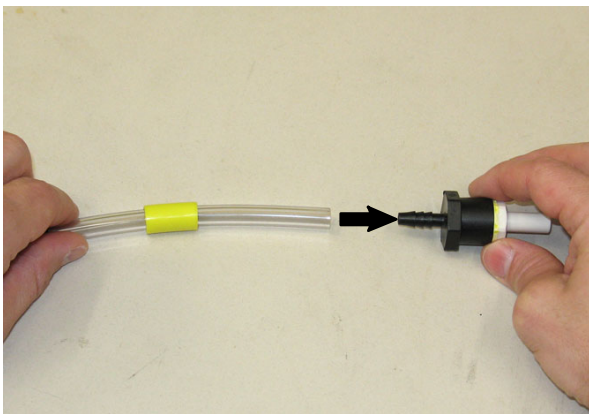

FIG. 28
27. Insert a straight fitting into the hose with the yellow marking. (Fig. 28)